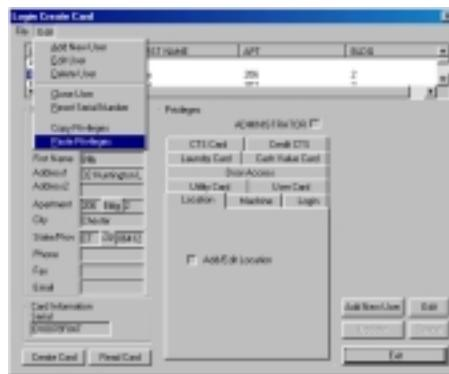

Figure 4.20 Pasting Privileges
5. Select Paste Privileges from the Edit drop-down menu (Figure 4.20).